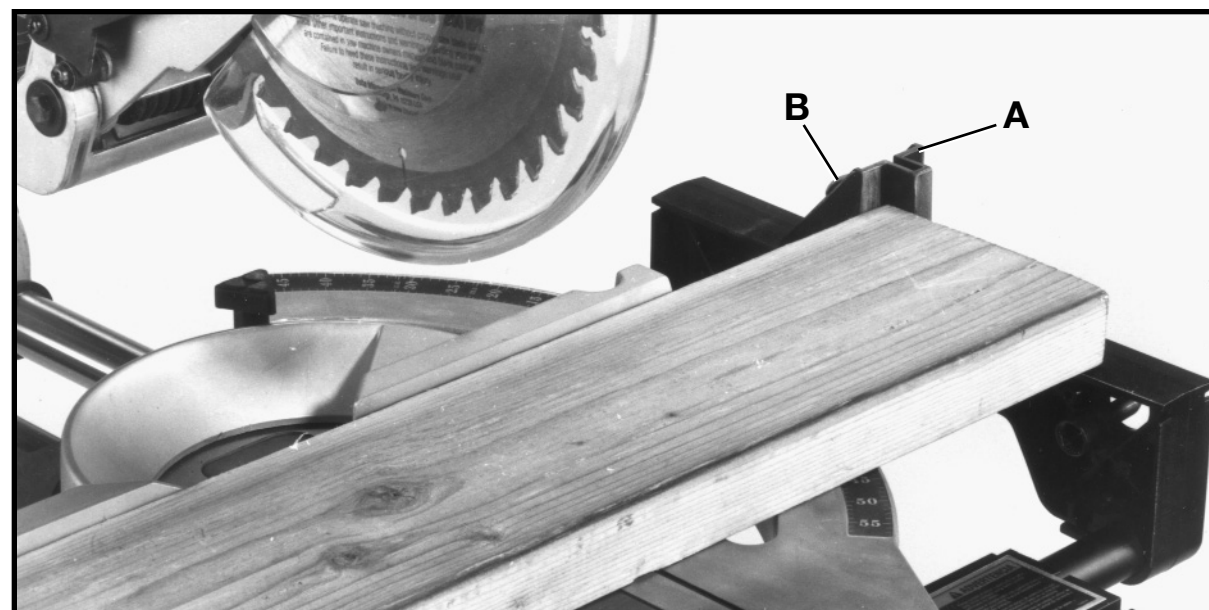

Fig. 54
The auxiliary fence (A) can be used as a cut-off gage or stock stop when cutting a number of pieces to the same length, as shown in Fig. 54. Loosen screw (B) and slide fence (A) forward to support and stop the workpiece. Then tighten screw (B).